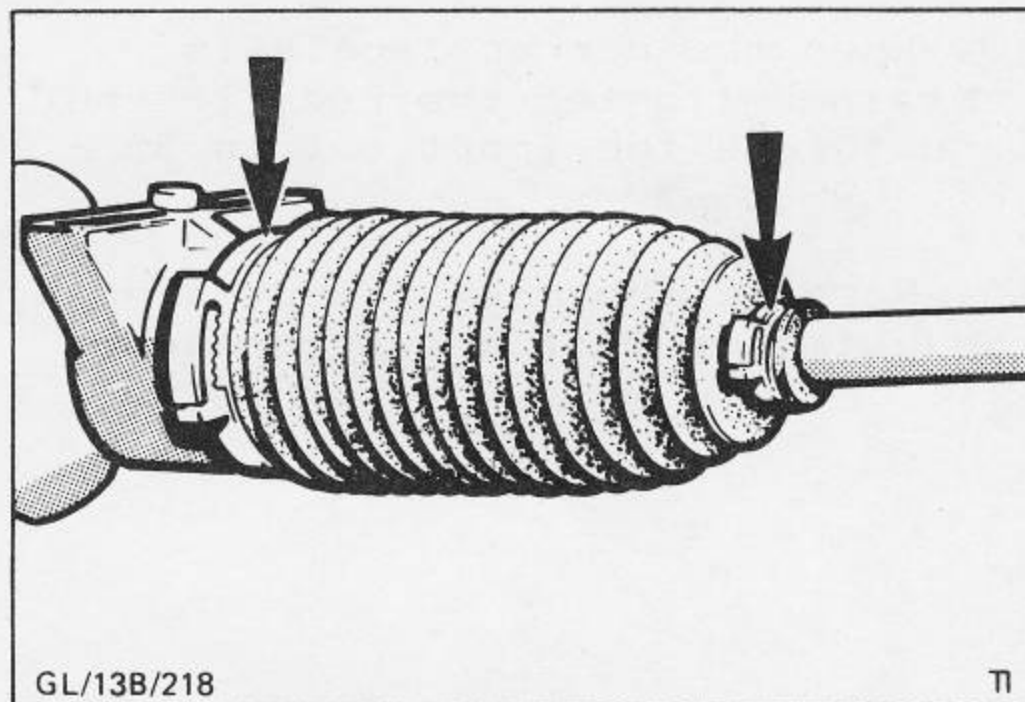

Fig.9 . Rack bellows snapper clips.
3. Tighten locknuts on track rod ends and clips on steering bellows. Fig.9